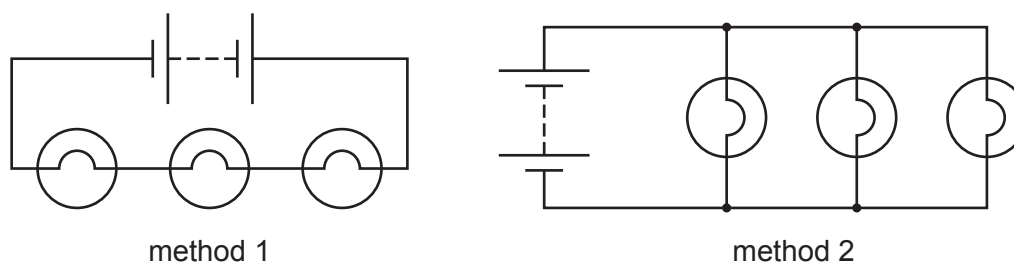

Fig. 8.1
- 8 Fig. 8.1 shows two methods of connecting lamps in a circuit.